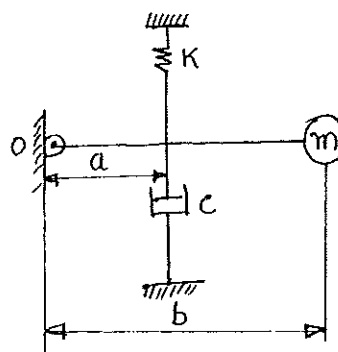

Fig. Q3(b)
- b. Derive the equation of motion for the system shown in Fig. Q3(b). If $m = 1.5\text{kg}$, $K = 4900\text{N/m}$, $a = 6\text{cm}$, $b = 14\text{cm}$, determine the value of "C" for which the system is critically damped. (06 Marks)